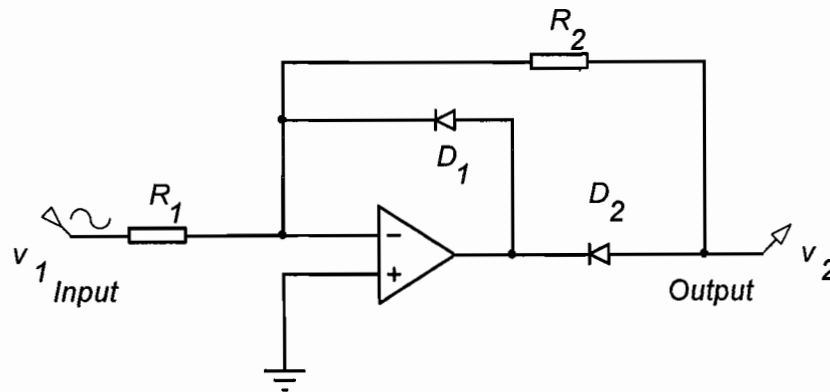

Fig 4.1
4. a) The circuit of a half wave precision rectifier is shown in Fig 4.1